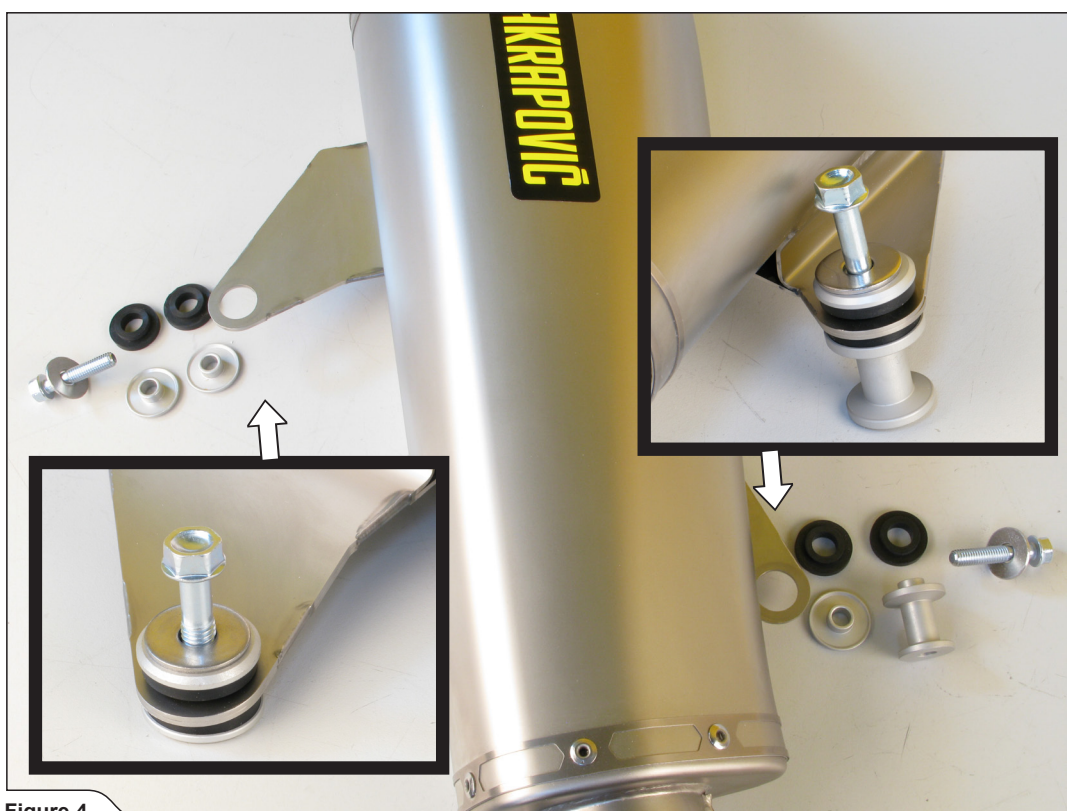

Figure 4
3. Assemble the rubber dampers and aluminium bushes from Akrapovič installation kit and insert them into the muffler's brackets (**Figure 4**).